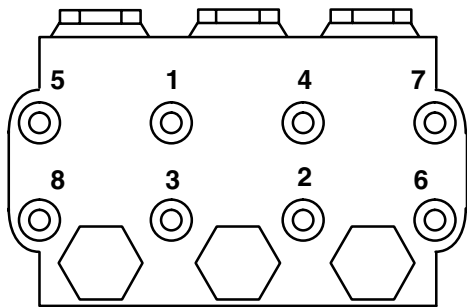

Figure 4
8. Install capscrews and washers finger-tight. Torque screws to 21.7 ft-lb (29 Nm) following the tightening pattern in Fig. 4. Uneven tightening may cause manifold to bind or jam.